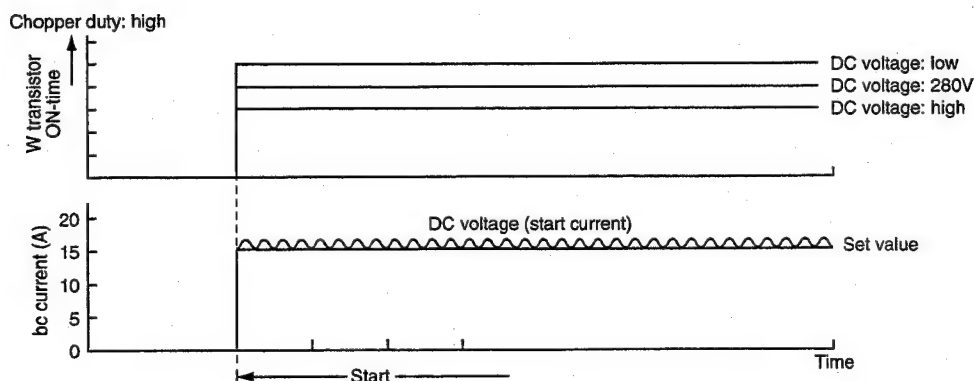

Fig. 8-10
(2) Varies the turn-ON time of the W+ transistor according to the DC voltage level and the start is controlled so the start current is approx. 10A as shown in Fig. 8-10.